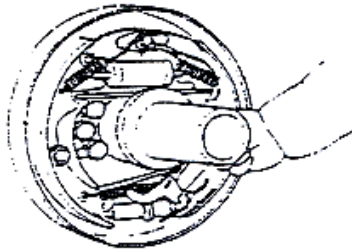

Figure 2-28
(8) Mount the brake shoe guide plate to the support pin, and then mount the return spring of the brake shoe. First install the main shoe and then install the auxiliary shoe. See figure 2-28
(9) Mount the regulator, the regulator spring, ejector Pin, return spring of the ejector Pin. The following points shall be noted: